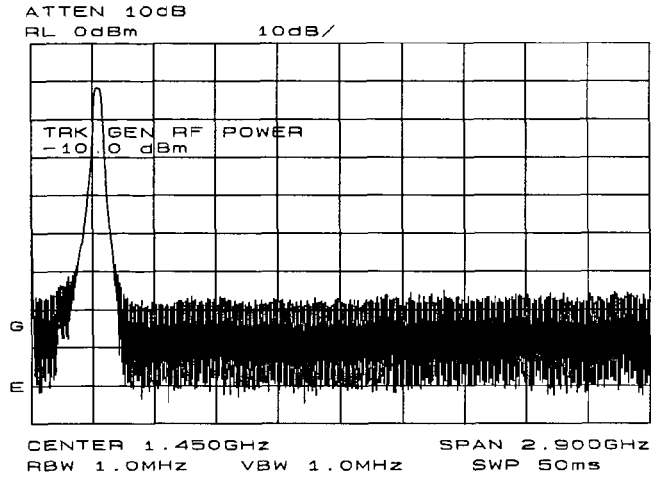

Figure 3-17. Tracking-Generator Output Power Activated
2. Put the sweep-time of the analyzer into stimulus-response auto-coupled mode by pressing **MORE 1 OF 3**, then **SWP CPL SR SA** until SR is selected. In stimulus-response mode, the auto-coupled sweep times are usually much faster for swept-response measurements (see Figure 3-17).